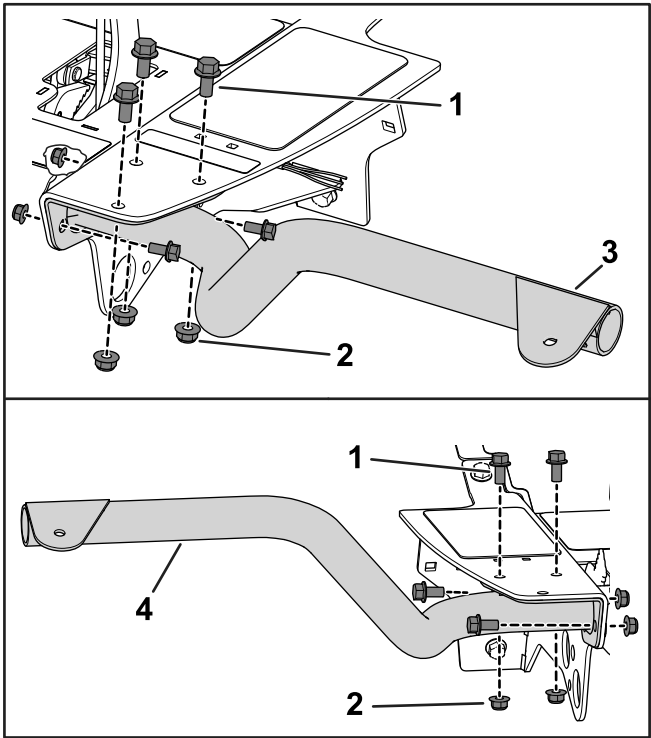

Figure 2
- Use 5 hex-head bolts (3/8 x 3/4 inch) and 5 flange nuts (3/8 inch) to secure the left headlight mount to the left floor bracket (Figure 2).
headlight mount to the right floor bracket (Figure 2).